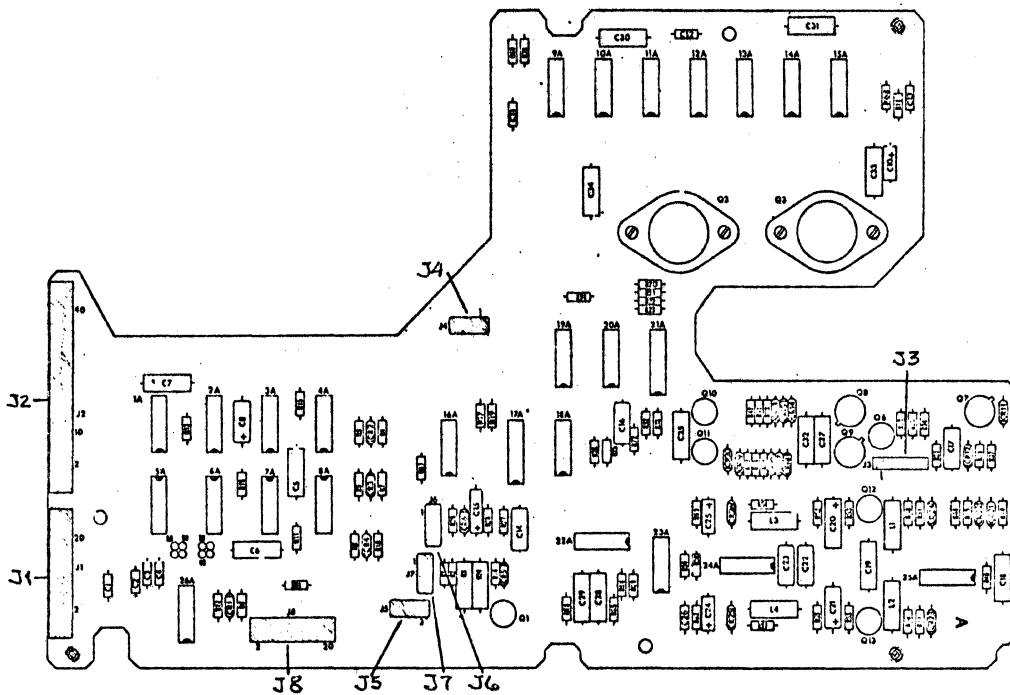

Figure 7-1. Interconnecting Cable Locations
There are nine plugs and jacks used with the disk drive. The function of each is listed in Table 7-1, and their location is shown in Figure 7-1.
- b. Remove ac plug (PO) at rear of unit and P1 Figure 7-1).
e. Turn all power on and measure dc voltages at J8 (Figure 7-1 and 7-2) in accordance with Table 7-4.